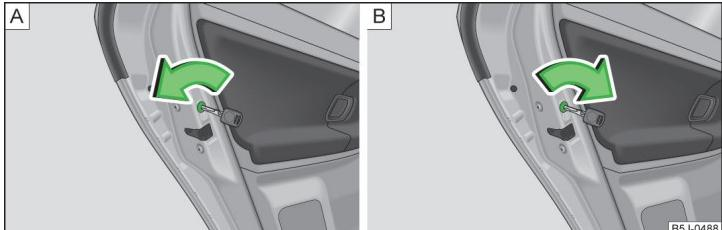

Fig. 27 Switching child safety lock on: for vehicles without or with central locking system
- On vehicles without central locking, turn the slot of the lock in the left-hand door anti-clockwise » Fig. 27 - A and clockwise in the right-hand door.
- On vehicles with central locking, turn the slot of the lock in the left-hand door clockwise » Fig. 27 - B and anti-clockwise on the right-hand door.